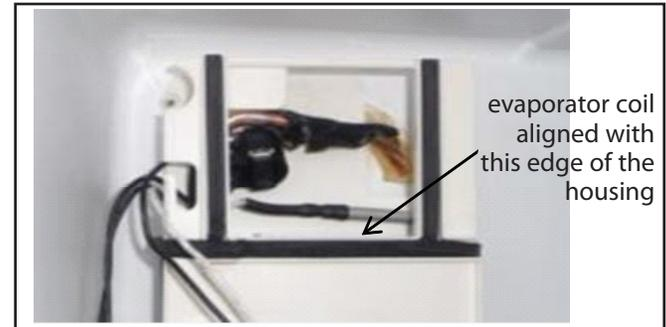

Figure 6-68
4. Push the Housing all the way to the top of the Evaporator. It is in the proper position when the top of the Evaporator coil is even with the bottom of the large window in the Housing as shown. Figure 6-68.